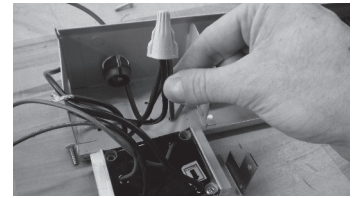

FIG. 4
5. Connect the other black relay wire to a line feed wire by using an appropriate wire nut. (FIG. 4)